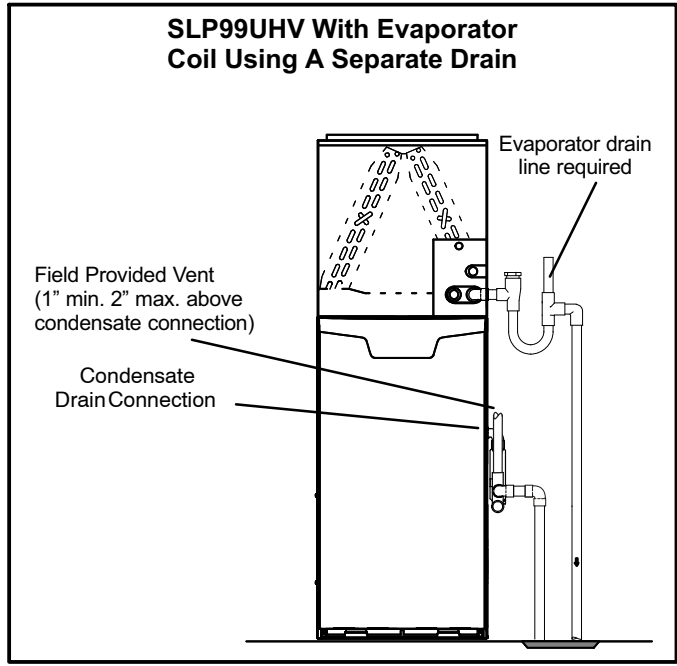
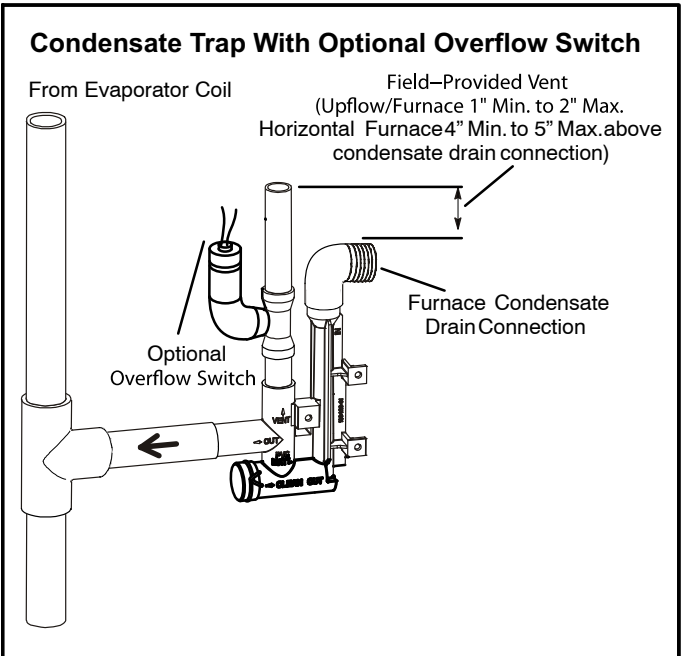

FIGURE 44
FIGURE 43
- 5 - Figures 44 and 45 show the furnace and evaporator coil using a separate drain. If necessary the condensate line from the furnace and evaporator coil can drain together. See figures 43, 46 and 47.